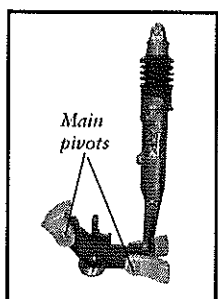

Fig. 30
1. Insert a 5mm allen wrench into the flat end of the pivot axle in the upper main pivot (Fig. 30). On the other end of the pivot axle, loosen the domed cap screw several turns.